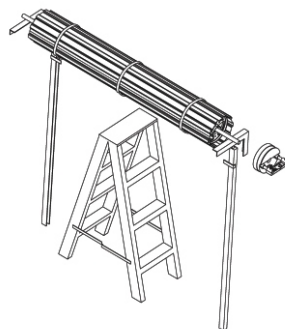
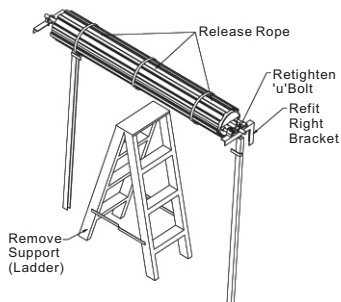

Fig3
Fig4
- e. Make sure the door supporting prop is secure. While the door is supported, remove the right-hand wall mount bracket. (Fig. 3)
- f. Remove the geared motor (1) and from the packaging material. Align the assembly with the three counter sunk holes in the spoke section. Affix with screws supplied 3 X (6x25mm counter sunk) using an appropriate flat bladed screwdriver. (Ensure the motor assembly is securely fixed to the drum wheel before proceeding.)
- g. Remove the motor shaft screw and slide on the main drive gear (4), then refit the shaft screw and tighten.
- h. Slide the slip ring assembly (13) over the door axle, locate into a position with the two slip ring wires are closest to the motor. Connect the two wires from the slip ring assembly to the motor leads. Observe the polarity of the four wires i.e. red to red, black to black.
- j. Slide the main Gear (12) over the door axle and engage teeth with the motor drive gear.
- k. Slide the main body (25) over door axle, space and make sure red pin handle (22) is in manual position. Locate the contact brushes (24) into inner and outer slip ring (13).
- l. The main body should now be sitting flush up against the ring gear. Attach split ring (9) to split ring extrusion and secure split Ring so tapping screw. (6 3/8)
- m. Replace right-hand side wall mount bracket. (Fig. 4)